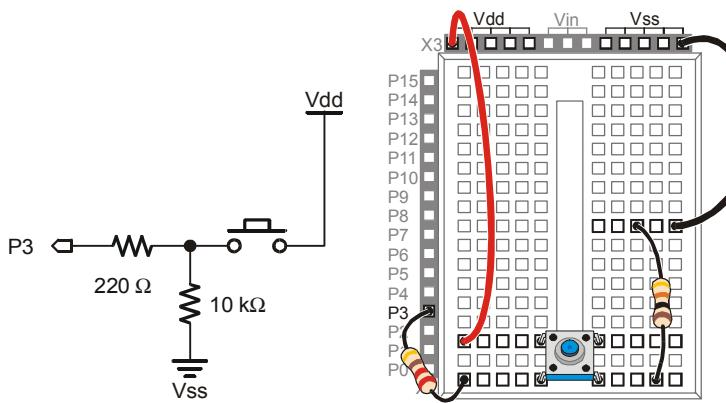
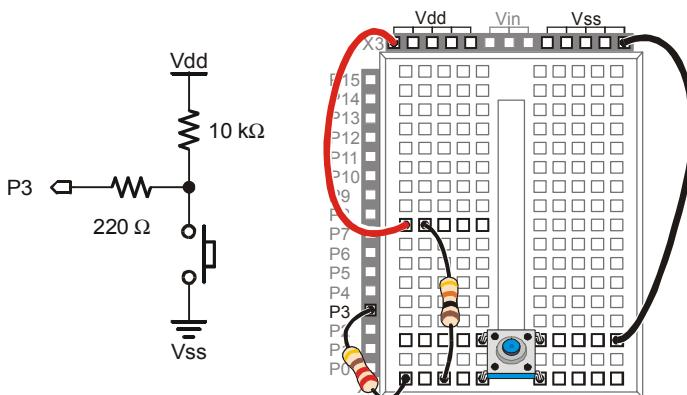

Figure 3-6
Figure 3-9
Figure 3-6 shows a pushbutton circuit that is connected to BASIC Stamp I/O pin P3.
- ✓ Build the circuit shown in Figure 3-6.
The circuit you just finished working with has a resistor connected to Vss. This resistor is called a pull-down resistor because it pulls the voltage at P3 down to Vss (0 volts) when the button is not pressed. Figure 3-9 shows a pushbutton circuit that uses a pull-up resistor. This resistor pulls the voltage up to Vdd (5 volts) when the button is not pressed. The rules are now reversed. When the button is not pressed, `IN3` stores the number 1, and when the button is pressed, `IN3` stores the number 0.
- ✓ Modify your circuit as shown in Figure 3-9.
Active-low vs. Active-high: This pushbutton Figure 3-9 is called active-low because it sends the BASIC Stamp a low signal (Vss) when the button is active (pressed). The pushbutton circuit in Figure 3-6 the main activity is active-high because it sends a high signal (Vdd) when the button is active (pressed).